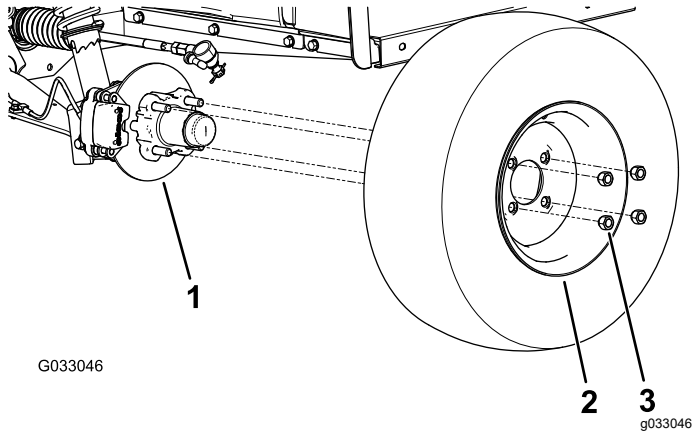

Figure 24
2. Remove the 4 lug nuts that secure the wheel to the hub (Figure 24).
4. Align the holes in the wheel to the studs of the hub and assemble the wheel to the hub with the valve stem outward (Figure 24).
5. Secure the wheel to the hub using the lug nuts (Figure 24).